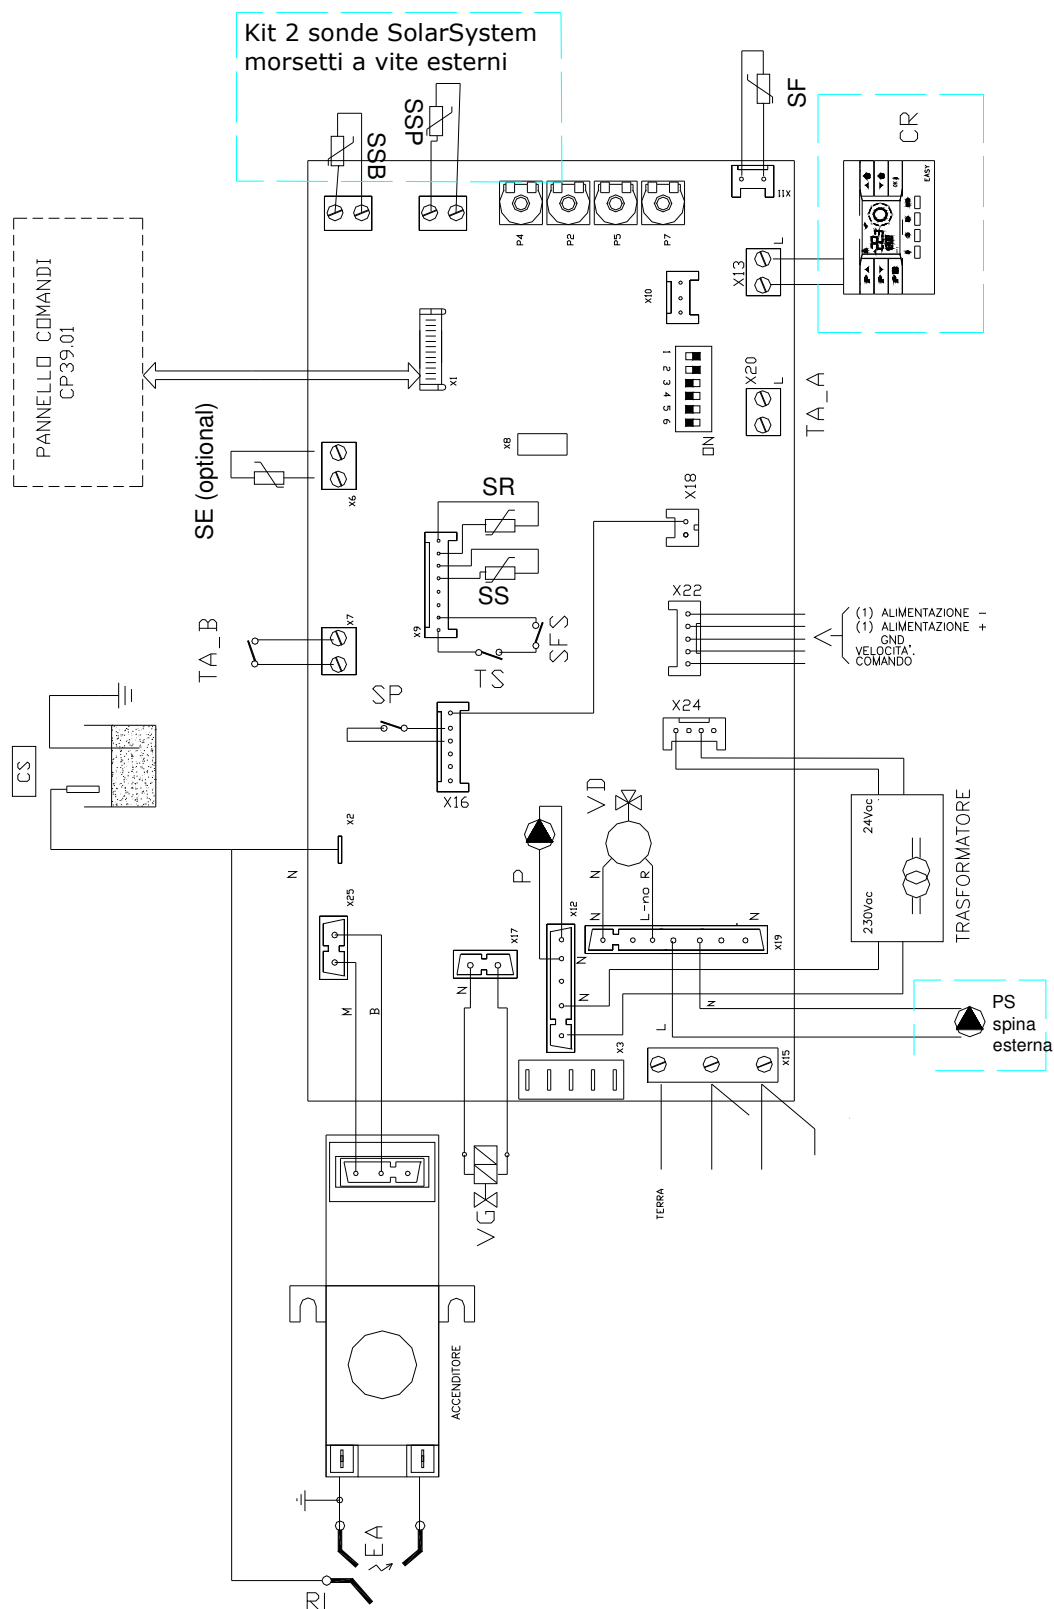

Fig. 4
- **DIP switches: the board (see Fig. 4) has 6 DIP switches which can be moved to create the different operating options listed below:**
On/Off room thermostat: make the connection to the TA_A and/or TA_B terminals on the PCB (Fig. 4) and check that the wire ends leading from the system are not energised (clean contact). More information on operating of the high/low temperature system is found in chapter 2.8
External sensor: it can be connected directly to the boiler electrical installation (SE terminals, Fig. 4) and automatically adjusts the installation maximum flow temperature as the external temperature changes. When it is connected, the position of DIP switch no. 3 must also be changed. It must be moved from OFF to ON.
The correlation between the flow temperature TM to the system and external temperature TE is determined by the position of the trimmer P7 on the PCB (see Fig.4) according to the curves shown below. For the sake of convenience, you can also use the heating
The remote control with mixed systems as described above must be correctly configured in the electronic board. This is done by setting DIP switch no. 4 to ON (see. Fig. 4 Page 12) to control the sanitary hot water temperature and reset the boiler (no more than five attempts after which the boiler must be reset) but losing the programmable thermostat function that will be implemented by the zone thermostats.
In this case, use of the external sensor connected to the boiler PCB is also possible as shown in Figure 4.